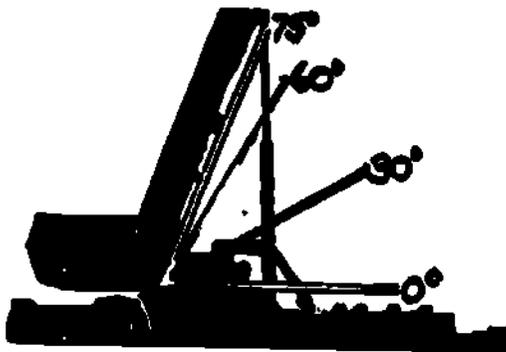

Fig 1-18. Boom angle.
- c. Boom angle is the angle determined when the boom is raised from a horizontal position. See figure 1-18.